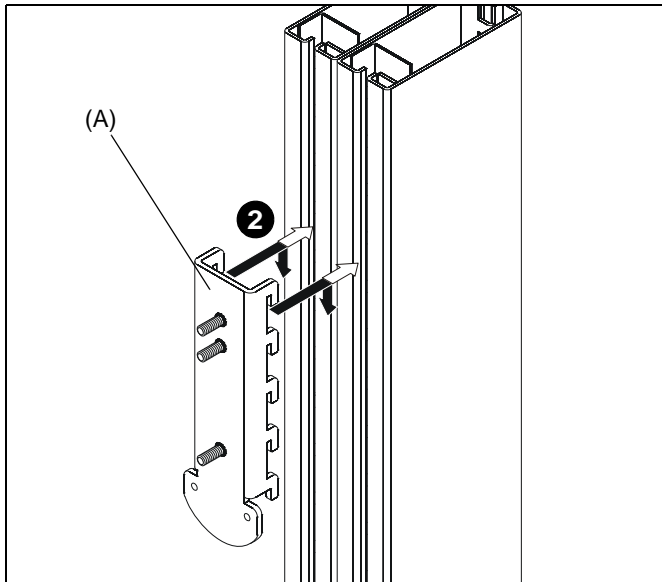

Figure 1
2. Connect OFB206 bracket (A) to work bench station by latching hooks onto tabs located under mounting surface. (See Figure 1)